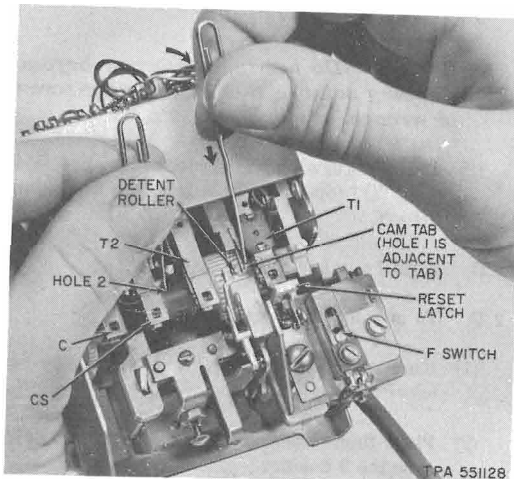

Fig. 5—Increasing Totalizer Rate
Increasing Rate (Fig. 5)
- (2) Further rotate shaft approximately 10 steps until a tab on the T1 cam is accessible as shown in Fig. 5 and 6.
- (3) Insert a KS-16750, List 3 releaser or a paper clip into one of the four holes indicated as hole 2 in center of shaft. Hold paper clip firmly so that shaft cannot move.
If hole 1 in T1 cam has been mutilated or clogged beyond use, place releaser or paper clip against tab as shown in Fig. 5 and push tab in direction of the straight arrow.